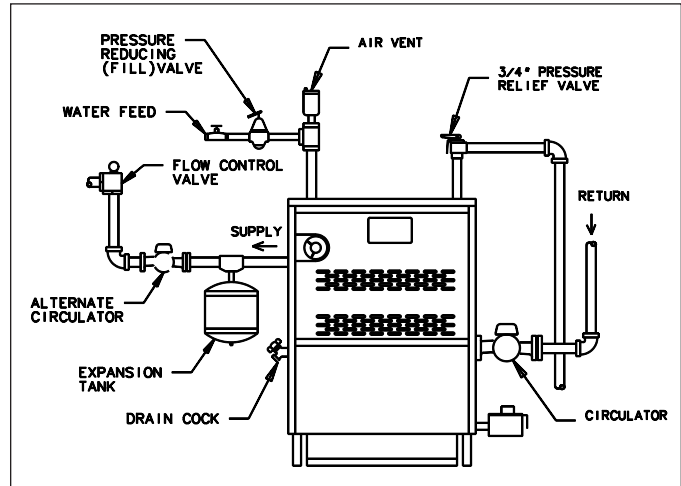

Figure 10. Piping arrangement
- Packaged water boilers are equipped with a water circulating pump, mounted to return the water into the boiler. For some installations, the pump should be on the supply main. See figure 10.
- DIAPHRAGM-TYPE COMPRESSION TANKS are used to control system pressure in an AIR ELIMINATING SYSTEM: an automatic air vent is used to REMOVE air from the system water. See figure 8. If system pressure needs further control, add an additional tank or install a larger capacity tank. Locate the tank near the boiler, as illustrated. An automatic air vent should be installed in the top of the boiler or air purger. See figure 10.